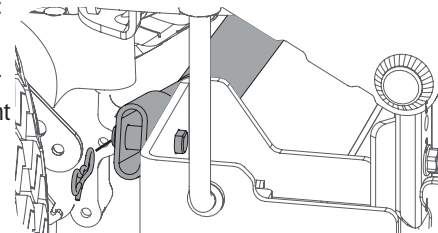

Figure 51
- a. Remove the bow-tie cotter pin on the right side of the bar connecting the bar with the bracket on the deck. See Figure 51.